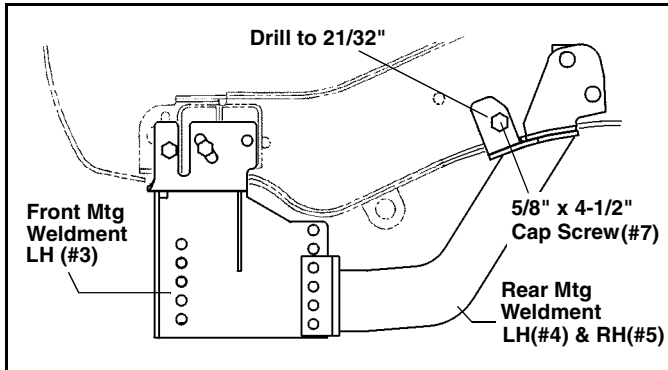

Figure 2
- Front holes: An existing hole for a 5/8" Cap Screw will be present. On some vehicles the power steering pump mounting bolt can be used. On other vehicles, a small existing hole will be present. If the small hole is present, use the hole in the bracket as a template to drill out the hole in the vehicle frame to 21/32". (See Figure 2.)